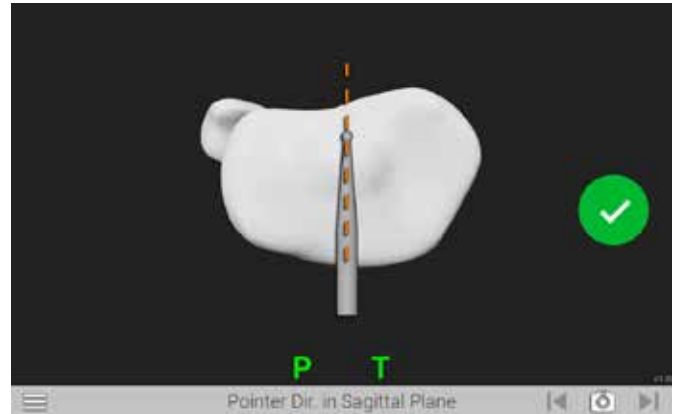

Figure 35
The Pointer Direction in Sagittal Plane screen is displayed (Figure 35). Position the tip of the Probe Tracker (P) at the posterior center (PCL insertion) and the shaft of the Probe Tracker (P) on the proximal tibia along a line connecting the center of the tibia and the medial-third of the tibia tubercle. Press the Forward button to register this orientation. The system will automatically advance to the next screen.